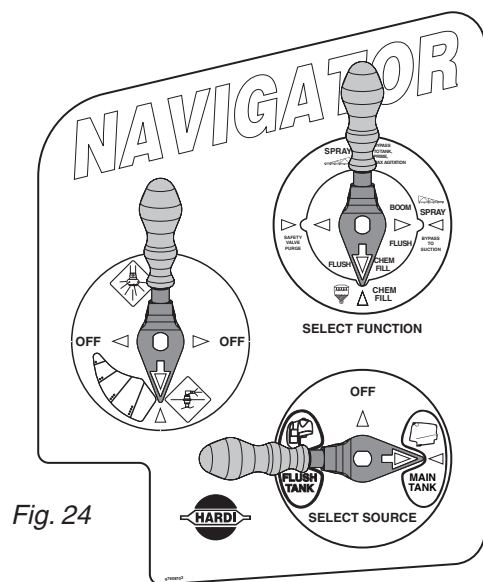

Fig. 24
- 3 Turn the Select Source handle to MAIN TANK. Turn the Select Function handle to CHEM FILL and turn the Variable Agitation handle straight down for maximum flow through the agitation nozzles (Fig 24).